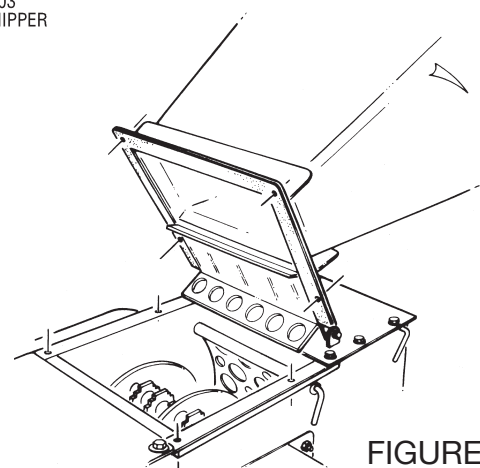

FIGURE 4
12. Frequently check for fibrous material wrapped around rotor shaft ends. Remove if present, otherwise machine performance will be reduced and may cause clutch wear and heat. (See figure 4)